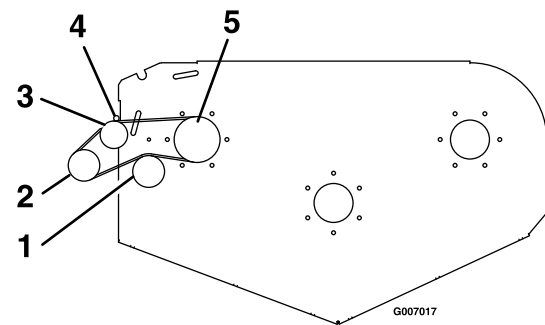

Figure 8
- A. To replace belt, remove the belt guide on the blower (Figure 8)